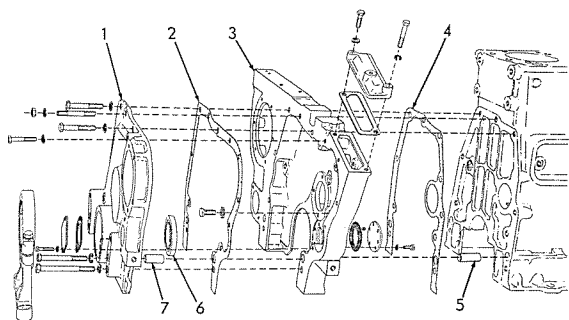

Fig. 6 — Typical Timing Gear Housing and Cover Details (T-71019)
7. Remove one nut and capscrews and lockwashers securing timing gear housing cover, Fig. 6 (1) to timing gear housing (3). Remove capscrews securing cover to oil pan and remove cover (1) and gasket (2).
3. Cement a new gasket, Fig. 6 (2), to the timing gear housing cover (1).